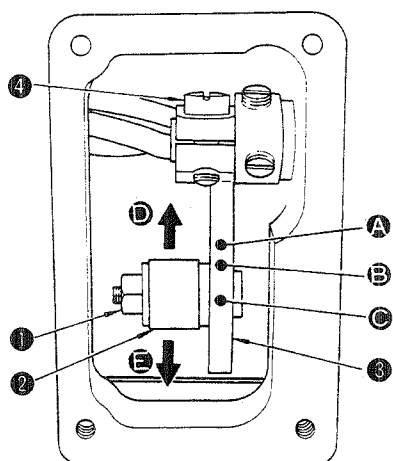
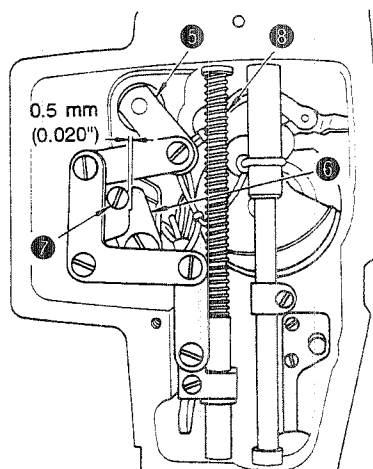

Fig. 5-21-1
Fig. 5-21-2
(Fig. 5-21-1)
Connecting shaft nut ① of the intermediate presser rod should be fixed in the lowest position providing a 0.5 mm (0.020") clearance between intermediate presser positioning link ⑥ and positioning pin ⑦ in the highest dead point of the needle bar. (Fig. 5-21-2)
<p>1) Loosen connecting shaft nut ① of the intermediate presser rod and move intermediate presser rod ② in the direction of arrow ④ to increase the stroke. Move the rod in the direction of arrow ③ to decrease the stroke. The standard vertical stroke of the intermediate presser is ⑤ 4 mm (0.157").</p> <p>Use marker dots ④, ③ and ⑤ as the standard points to make the adjustment. A 6 mm (0.236") stroke is obtained when the center of the connecting shaft nut ① of the intermediate presser rod aligns with marker dot ④. A 5 mm (0.197") stroke is obtained when the center of the connecting shaft nut of the intermediate presser rod aligns with marker dot ③. A 4 mm (0.157") stroke is obtained when the center of the connecting shaft nut of the intermediate presser rod aligns with marker dot ⑤.</p> <p>2) Fix connecting shaft nut ① of the intermediate presser rod in the lowest position of the intermediate vertical stroke. Bring the needle bar to its highest dead point. Loosen setscrew ④, and move intermediate presser oscillating shaft ⑤ so that a 0.5 mm (0.020") clearance is obtained between intermediate presser positioning link ⑥ and positioning pin ⑦. Securely tighten setscrew ④.</p> <p>(Caution) Make sure that intermediate presser positioning link ⑥ does not come in contact with positioning pin ⑦, and the intermediate presser oscillating shaft ⑤ does not come in contact with intermediate presser spring ⑧, when the handwheel is turned by hand to rotate the main shaft. If the machine operates under the condition that the link hits against the pin and the shaft hits against the spring, breakage of the corresponding parts may result. (Fig. 5-21-1, Fig. 5-21-2)</p> <p>3) Refer to the "STANDARD ADJUSTMENTS (20)-4."</p>	<p>1) The specified vertical stroke of the intermediate presser will not be obtained. [In order to override the overlapping section of the material, the vertical stroke of the intermediate presser should be made greater. In this case, be sure to remember that floppy material cannot be easily fed if the vertical stroke is too great, resulting in stitch skipping.]</p> <p>2) The 0 mm vertical stroke of the intermediate presser will not be obtained.</p> <p>3) Refer to the "STANDARD ADJUSTMENTS (20)-4."</p>